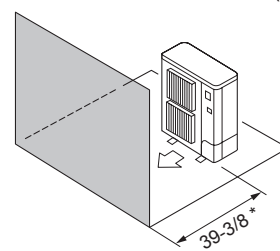

Fig. 2-8
④ Obstacles at front (Fig. 2-8)